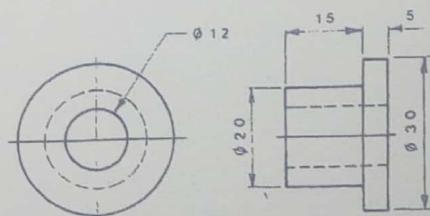

Figure 9
1.4 A front and end elevation views of an object are given below Figure 9. Study carefully and write down the projection angle which the views are given in. (2 marks)